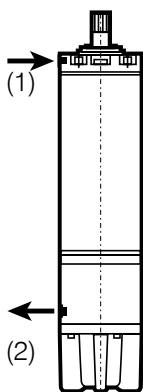

Fig. 1B
2- Position the motor vertically. Complete the missing water from the (1) screw of filling hole. Wait around 2-3 minutes. So there will be no air left into the motor. If there is still some water missing, fill it completely again and close the screw. (Fig. 1B)